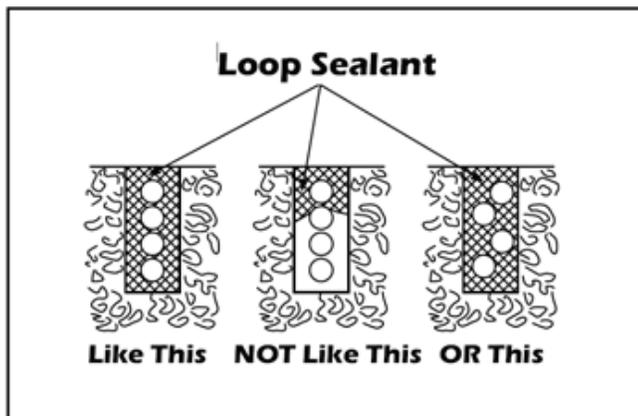

Figure 70. Loop Sealant
9. This guide is written from a design perspective, but installation workmanship practices are equally important to insure proper operation and long loop life. The best way to insure a quality installation is to employ a professional installer experienced with detector loops. A few important practices are: See Figure 70.